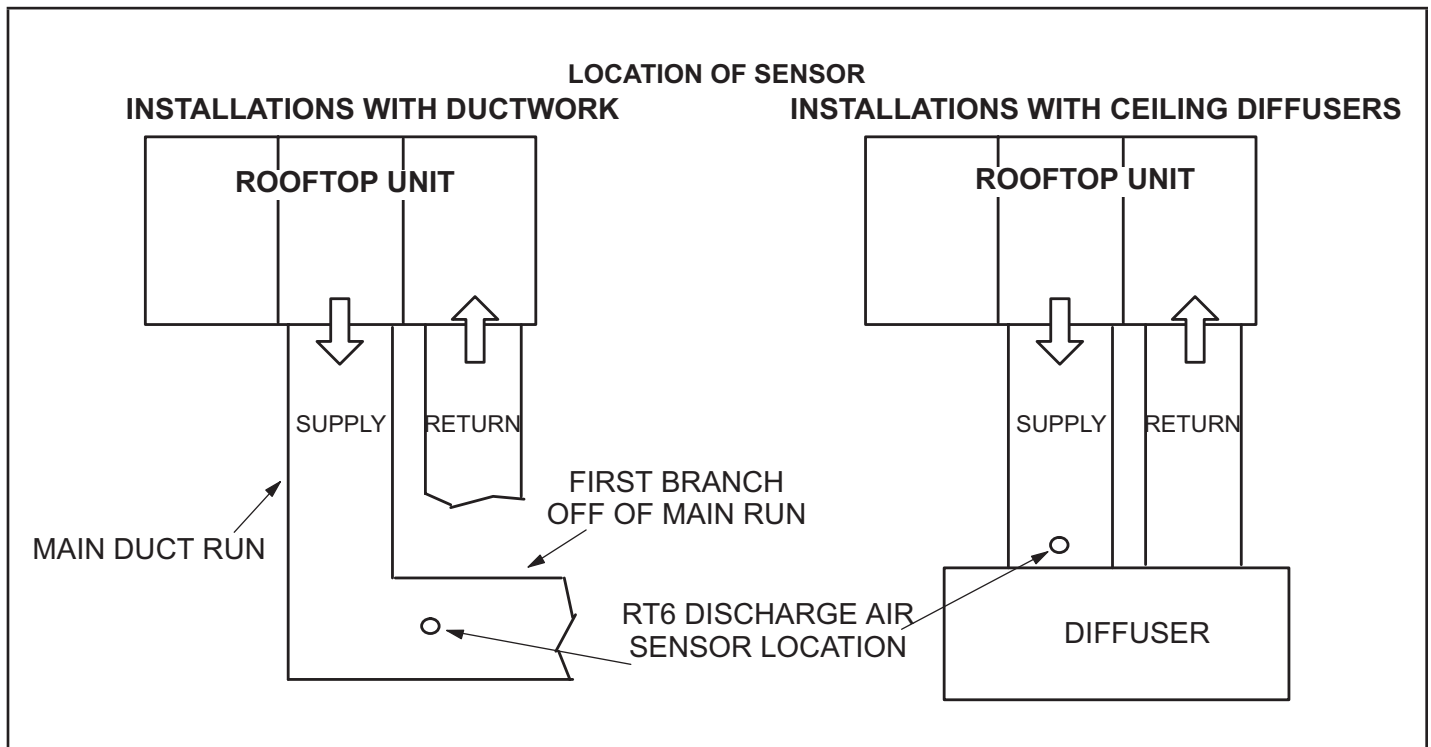

FIGURE 1
- 2 - Select Sensor location. Refer to FIGURE 1 for down-flow applications.